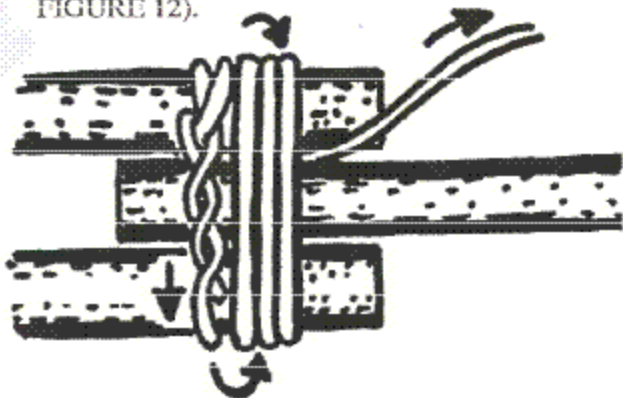

FIGURE 13
1. With the SPARS laid in alternate directions, start with a CLOVE HITCH on one SPAR (see FIGURE 13).